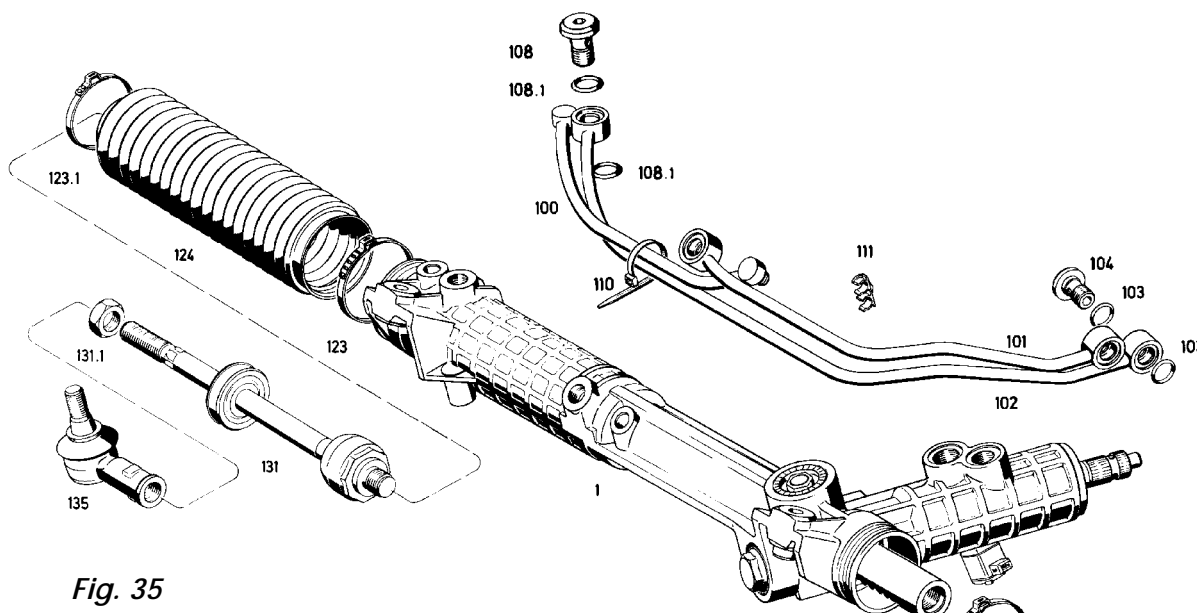

Fig. 35
6.1 Versions with union screws (104)
Fit the pipes (101 and 102) along with the O-rings (103) and the sealing washers (108.1) and the union screws (104) and the damper valves (108) (Fig. 35).
Slide the bellows (124) onto the tie rod (131) (*Fig. 35*).
7.3 Versions without an additional tie rod (131) securing device
7.5 Fastening the bellows (124)
Fasten the bellows (124) with the hose clips (123.1) (*Fig. 35*).